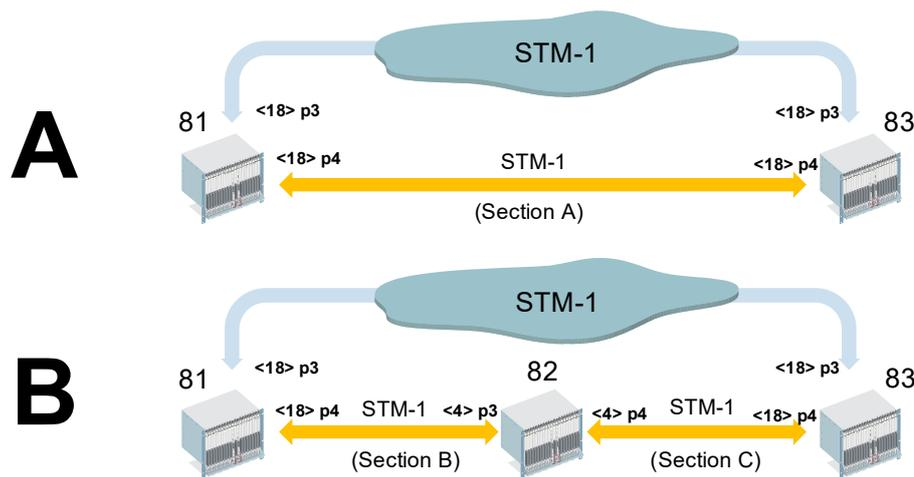

Figure 85: Insertion of a new node (sample)
Assuming you have a circuit from port 4 on node 81 to port 4 on node 83, using an STM1 optical section between node 81 and node 83 (situation **A** in Figure 85). Now you want to insert a new node 82 into that optical section so that the circuit will be running from port 4 on node 81 via node 82 to port 4 on node 83 (situation **B** in Figure 85).
- 13.FOXMAN-UN Section Manager: Create section B between node 81 and node 82; create section C between node 82 and node 83 (see situation **B** in Figure 85).